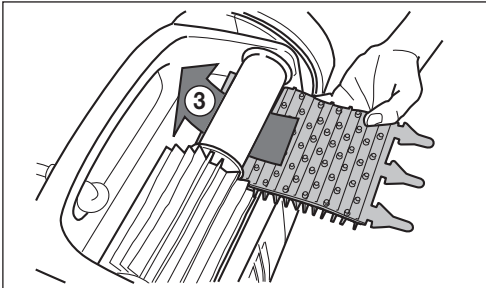

Figure 26. Install the New Brush
3. To install the new brush, position the new brush on the roller with the cleaning blades facing away from the roller. See *Figure 26*.